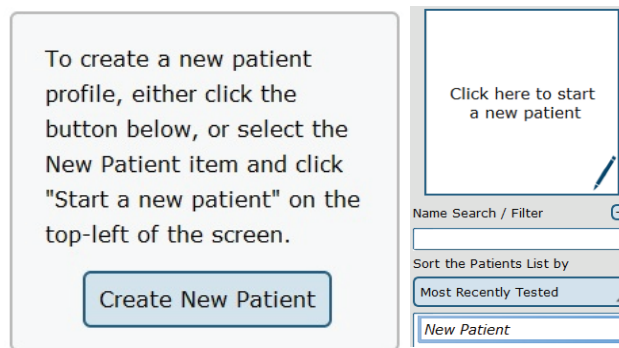

Figure 21: Creating New Patients.
1. Click on the New Patient button in the center of the screen immediately after logging into the system and arriving at the clinician home screen. Alternatively, select New Patient from the patient list and then click on the Click here to Start a New Patient square (located in the upper left corner of the screen). Both options are shown in Figure 21.